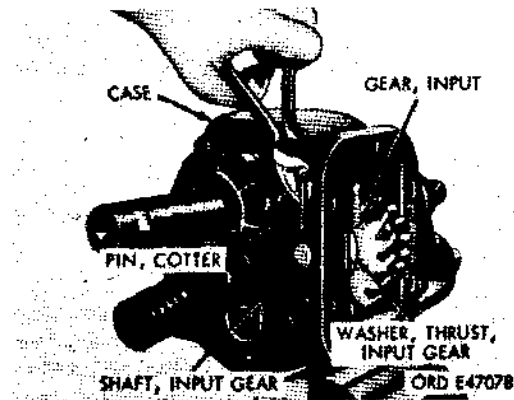

Figure 288. Removing input gear
- (2) Remove input shaft. Remove cotter pin (fig. 288) from case holding input gear shaft in position. Use a soft bar and tap input gear shaft at opposite end from cotter pin until shaft is removed from case. Remove two input gear thrust washers and input gear from case. Remove two roller - bearings (AE, fig. 295) from bore of input gear.
- (3) Remove rear output housing.